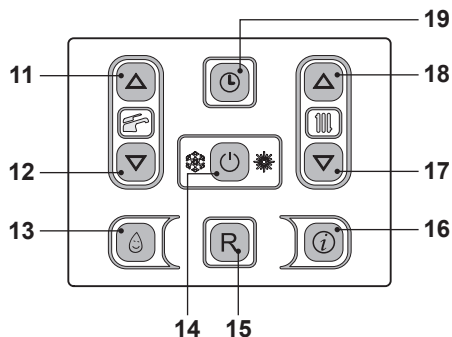
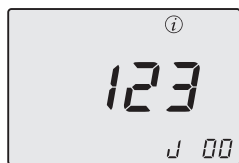

Fig. 3.6
Fig. 3.7
In order to access the INFO mode, press key 16 (Fig. 3.6) the index **J00** and the value of the parameter appear on the display (Fig. 3.7).
To scroll the values press 17 (reduce) and 18 (increase) keys. In order to exit the INFO mode, hold keys 14 and 18 (Fig. 3.6) pressed at the same time.
To reset normal boiler functioning, just press the 15 (Fig. 3.6) key.